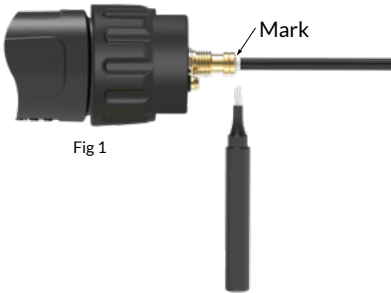

Fig 1
- Ensure the liner is under slight compression within the torch conduit. Mark the position at the rear of the liner collet (Fig 1).